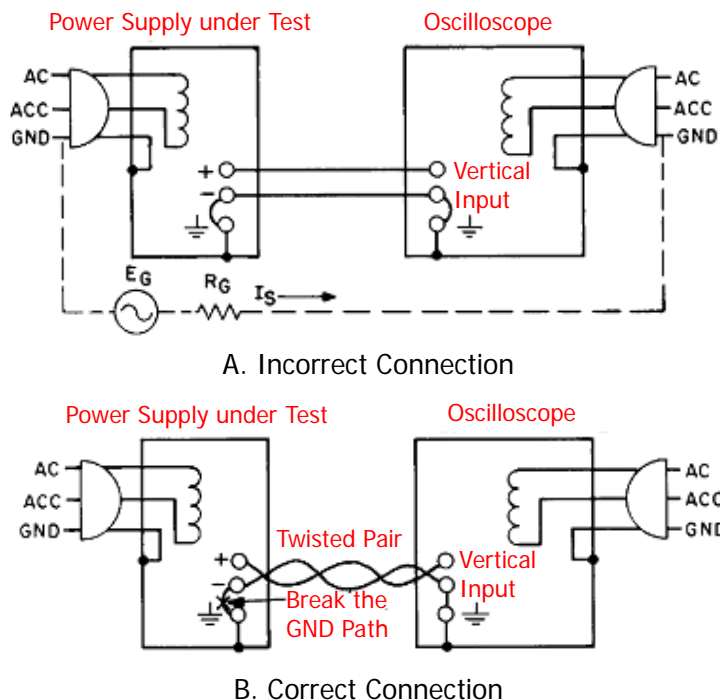

Figure 2-3 Peak-peak Value Measurement Connections
- Do not connect the negative terminal of the output terminal of the channel to be tested to the shielding ground; otherwise, a ground loop would be formed. In Figure 2-3, the connection in figure A forms a ground loop while figure B shows the correct connection.